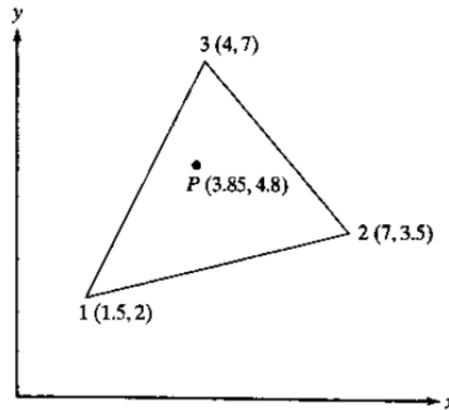

Figure.2
b) Evaluate the shape functions  $N_1$ ,  $N_2$  &  $N_3$  at the interior point P for the triangular element shown in figure.2. [5]